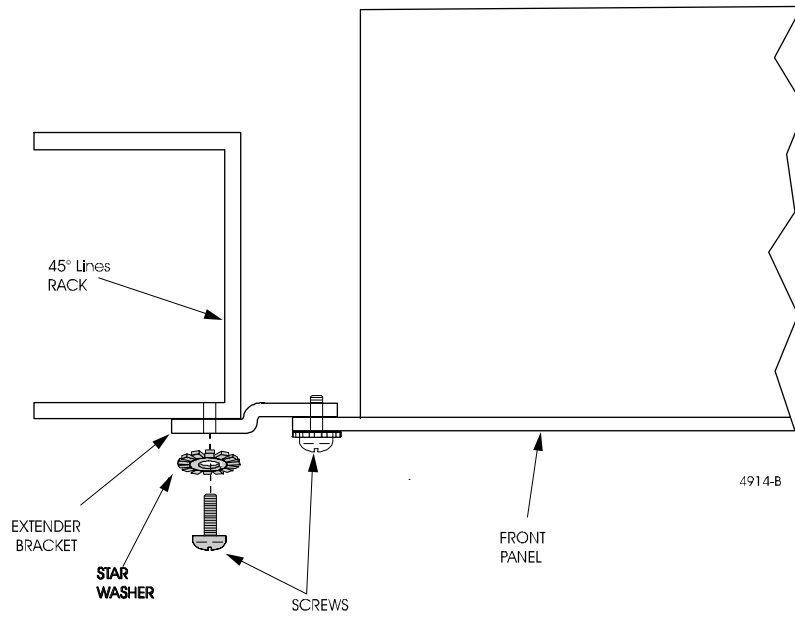

Figure 504-1. Installing 19-to-23-Inch Rack Extender Brackets
3. Attach a 19-to-23-inch extender bracket EB17P (**Figure 504-1**) to each side of the front panel using 12-24 by 1/2-inch binding-head machine screws with external tooth star lock washers.